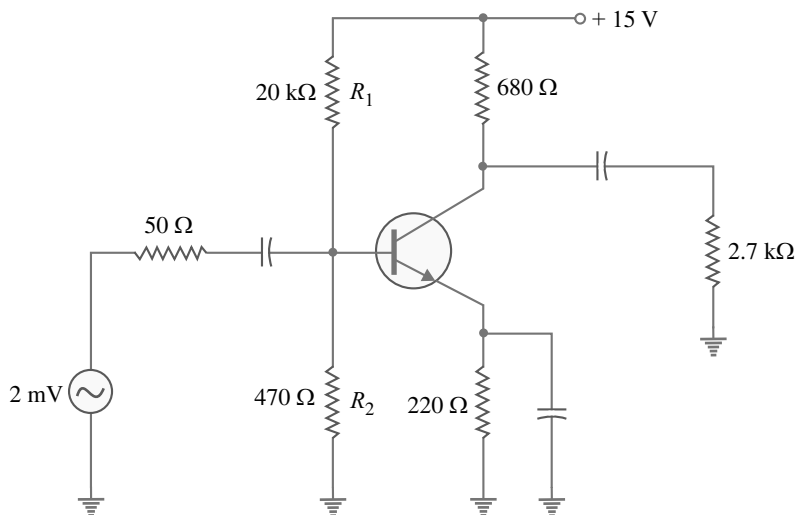

Fig. 10.11
**Example 10.9.** For the transistor amplifier circuit shown in Fig. 10.11, what is the a.c. collector resistance? If the  $Q$  point is approximately at the centre of the a.c. load line, what is the a.c. saturation current?